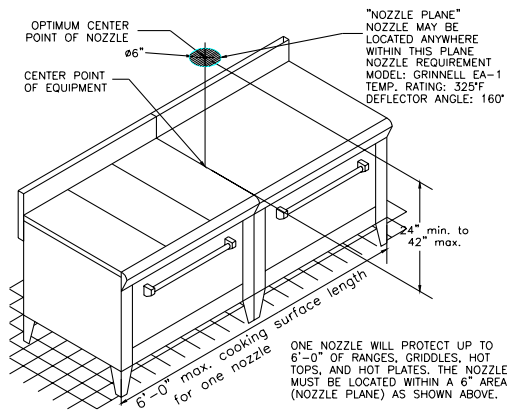

fig. 11
One (1) sprinkler will cover up to 6'-0" of ranges, griddles, hot tops and/or hot plates. The sprinkler must be located within a 6 x 6" area [sprinkler plane] centered above the equipment. The mounting height of the sprinkler is a minimum of 24" and a maximum of 42" measured from the cooking surface to the deflector of the sprinkler. [See figure 11]